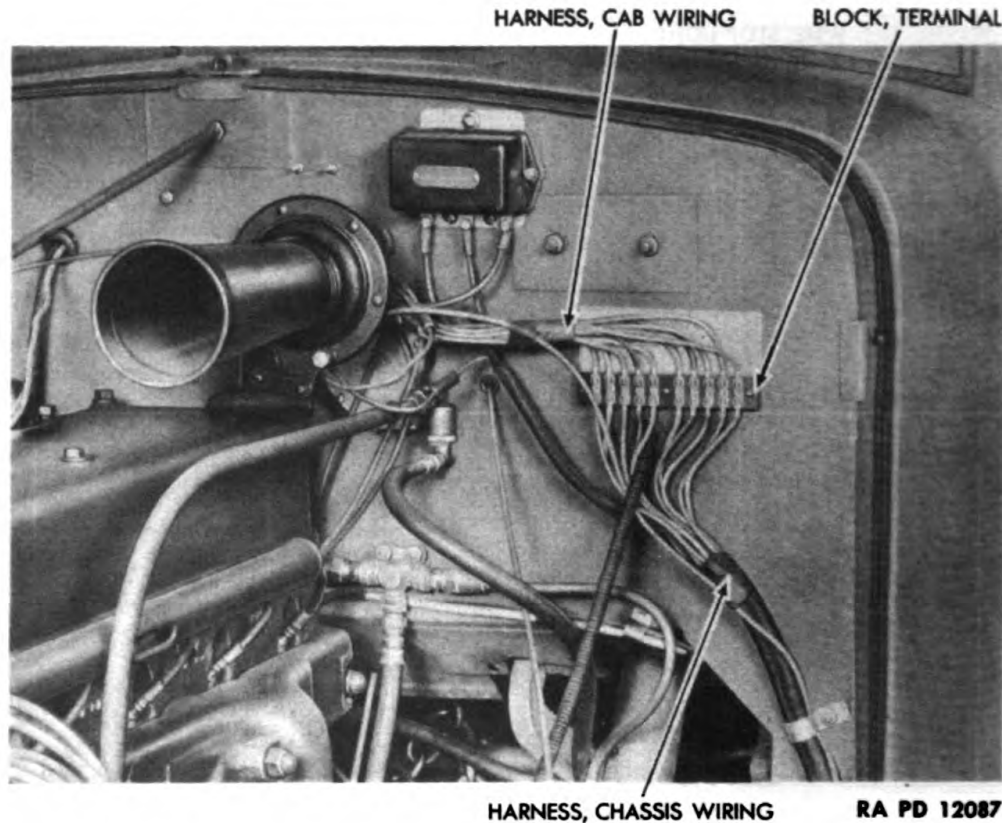

Figure 227—Terminal Block
a. Two wire harnesses are used to wire the electric system (figs. 164 and 165). The cab wire harness serves the units in the cab, while the chassis wire harness serves the units mounted on the chassis. Union of the 2 wire harnesses is provided for at the terminal block on the engine side of the dash (fig. 227).
1. Disconnect each wire of the harness from terminal block (fig. 227). Tag each terminal with a cardboard marker describing color of wire taken from it.
3. Trace wiring harness from terminal block and remove all cable clips (fig. 227).